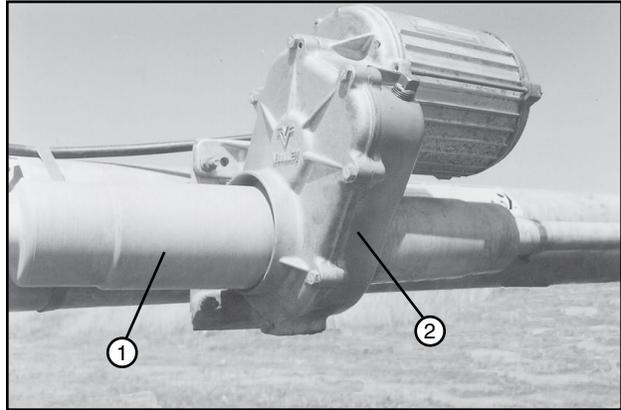

Figure 68-1 1. U-joint Shield 2. Gearbox
7. Slide the u-joint shield over the u-joint and position approximately 1/4 in away from touching the gearbox. Secure the u-joint shield to the drive shaft shield with a clamp. See Figure 68-1.